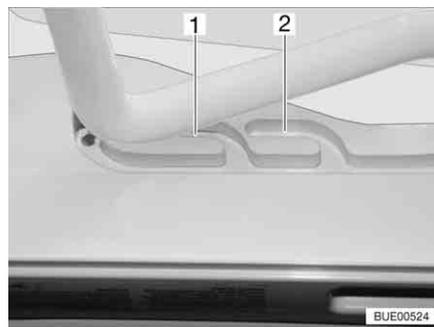
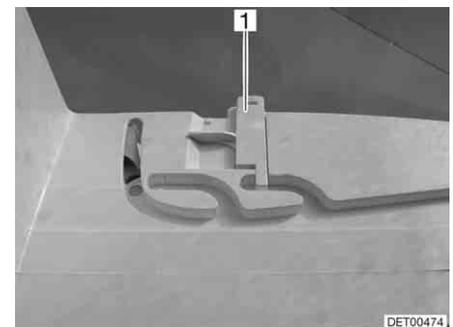

Fig. 127 Heki skylight in ventilation position
Fig. 128 Ventilation position locking mechanism
The Heki skylight can be put in two ventilation positions: Bad weather position (Fig. 127,1) and central position (Fig. 127,2). Depending on the model, the skylight can be locked in the central position with both left and right latches (Fig. 128,1) on the skylight frame.
- Push the bar slightly upwards and into the selected guide (Fig. 127,1 or 2) and lock if necessary.